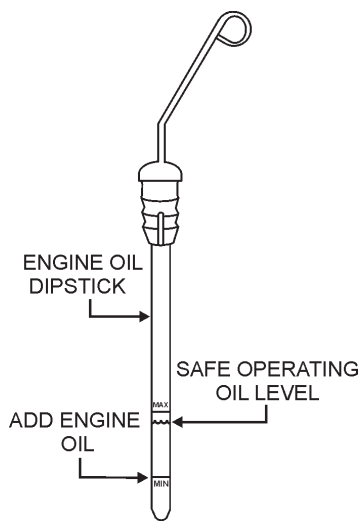

Figure 8. Engine Oil Dipstick
3. Re-Insert dipstick (Figure 8), then remove dipstick from its holder. Check the oil level shown on the dipstick.